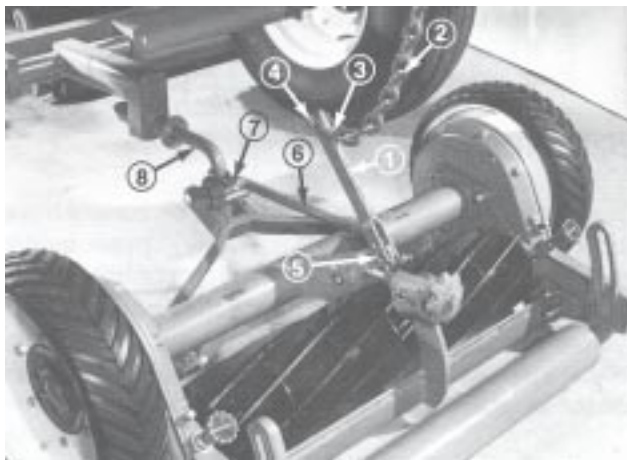

Figure 16
2. Secure lift bracket to #1 lift chain (rear center) with a long shackle, clevis pin and cotter pin (Fig. 16).
3. Secure lift bracket to mower mounting bracket with a 3/8-16 x 1-1/2" lg. capscrew and 3/8-16 locknut (Fig. 16). Use bottom mounting hole in lift bracket.
4. Hook spring to upper mounting hole in lift bracket and other end of spring to lift bail with S-hook (Fig. 16).